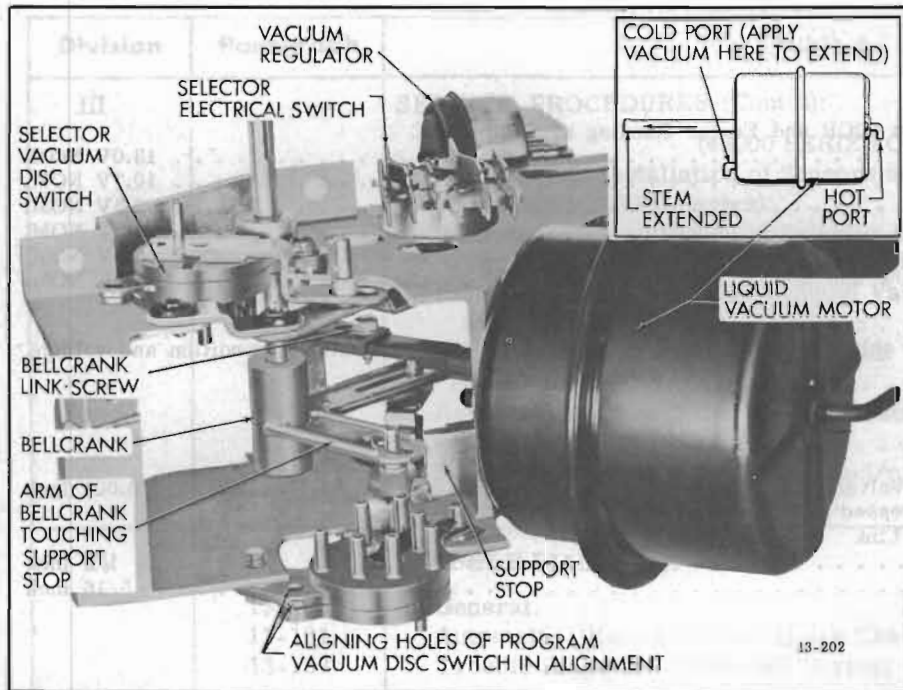

Figure 13-152—Liquid Vacuum Motor with Stem Extended (45-46-48000 Series)
3. Apply vacuum (maximum of 10 inches) to cold port of LVM to fully extend stem of LVM (see Figure 13-152) and rotate bell-crank arm in a counterclockwise direction until bell-crank contacts stop.